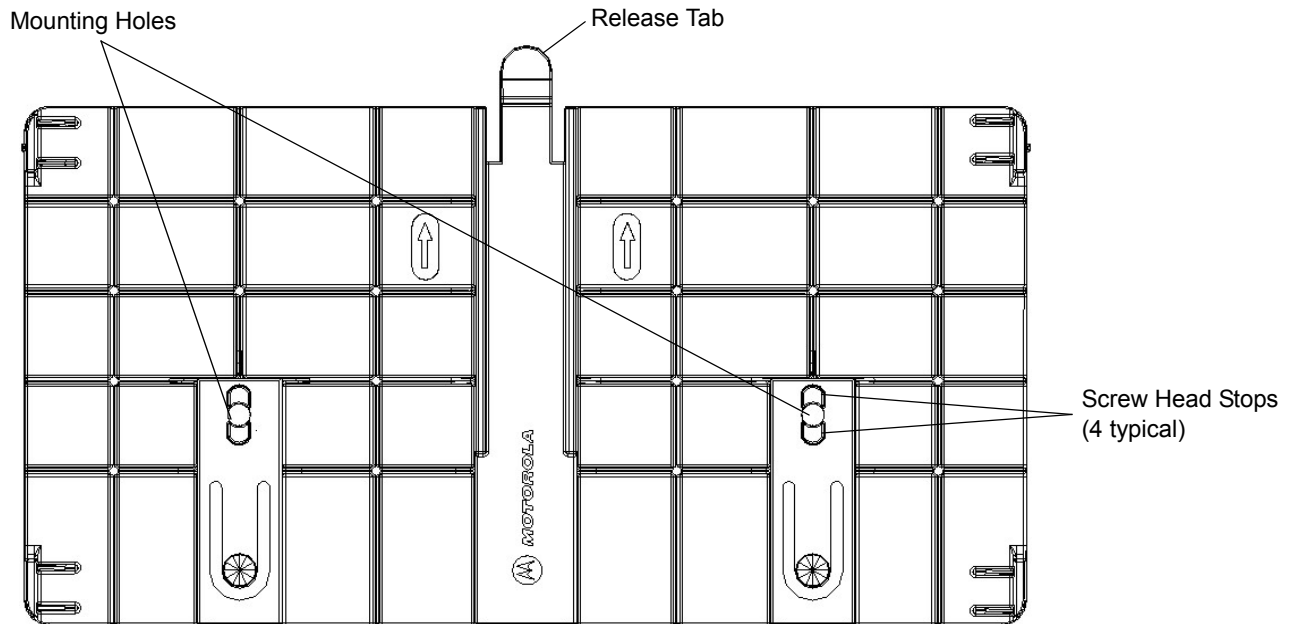

Figure 3-1 Mounting Plate, Front
1. Position the mounting plate on a flat surface (wall or shelf). Position the release tab on the top. See Figure 3-1.
2. Mark the hole locations using the mounting plate as a guide. See Figure 3-1. Remove the mounting plate and drill holes (appropriate for the surface material) at the marked locations.
CAUTION Use a hand screw driver to install the mounting plate (do not use a power driver). Do not use excessive torque, and tighten the screws so that they are just snug on the screw head stops (see Figure 3-1). If the reader does not engage the mounting plate, loosen the screw(s) 1/8 to 1/4 turn and try again.
4. Position the reader by aligning the markers on the metal base plate and the wall bracket, with the key-slot holes over the mounting screws. Gently slide the reader down (see Figure 3-1) to lock into place.